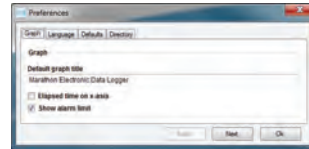
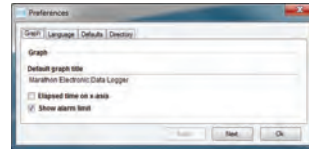
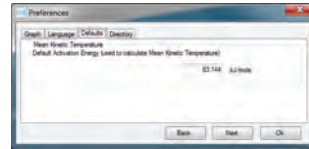
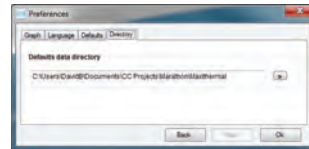

FIGURE 2
FIGURE 3
FIGURE 4
FIGURE 5
- Set software preferences: Graph (Fig. 2), Language (Fig. 3), Defaults (Fig. 4), Directory (Fig. 5)